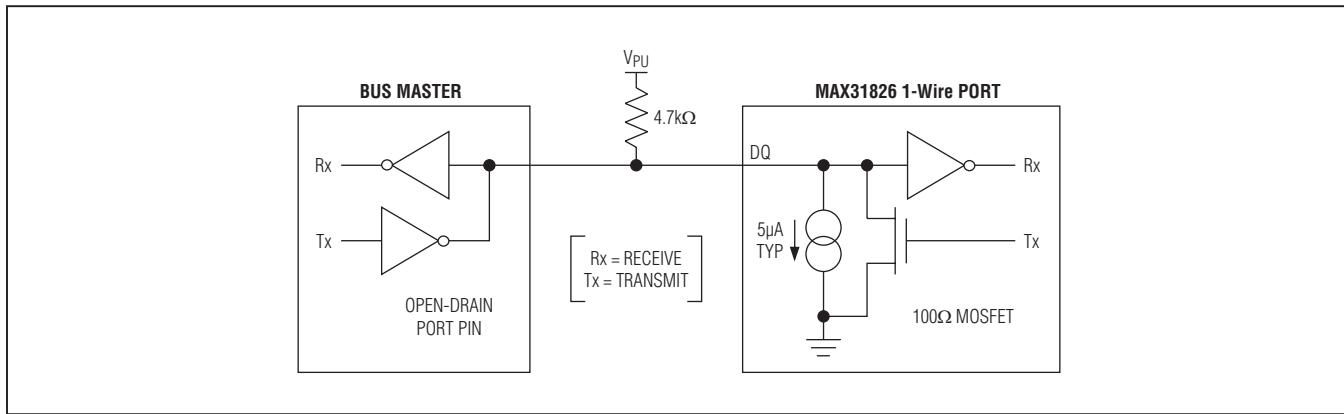

Figure 6. Hardware Configuration
The 1-Wire bus has by definition only a single data line. Each device (master or slave) interfaces to the data line by using an open-drain or three-state port. This allows each device to “release” the data line when the device is not transmitting data so the bus is available for use by another device. The device’s 1-Wire port (DQ) is open drain with an internal circuit equivalent to that shown in Figure 6.